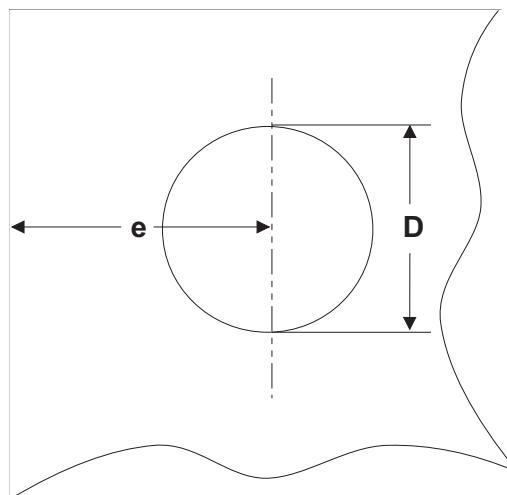

Figure 2-01 — Edge Margin Spacing
- 2.3 **Edge Margin** - Edge margin ( $e/D$ ) is the ratio of the shortest distance between the center of the hole and the edge of the part. Reworking of fastener holes tends to reduce the edge margin. Fatigue testing has shown edge margins of 1.75 or greater are preferred. Use of an interference fit fastener is recommended for edge margins between 1.25 and 1.75. Ref. Fig. 2-01.